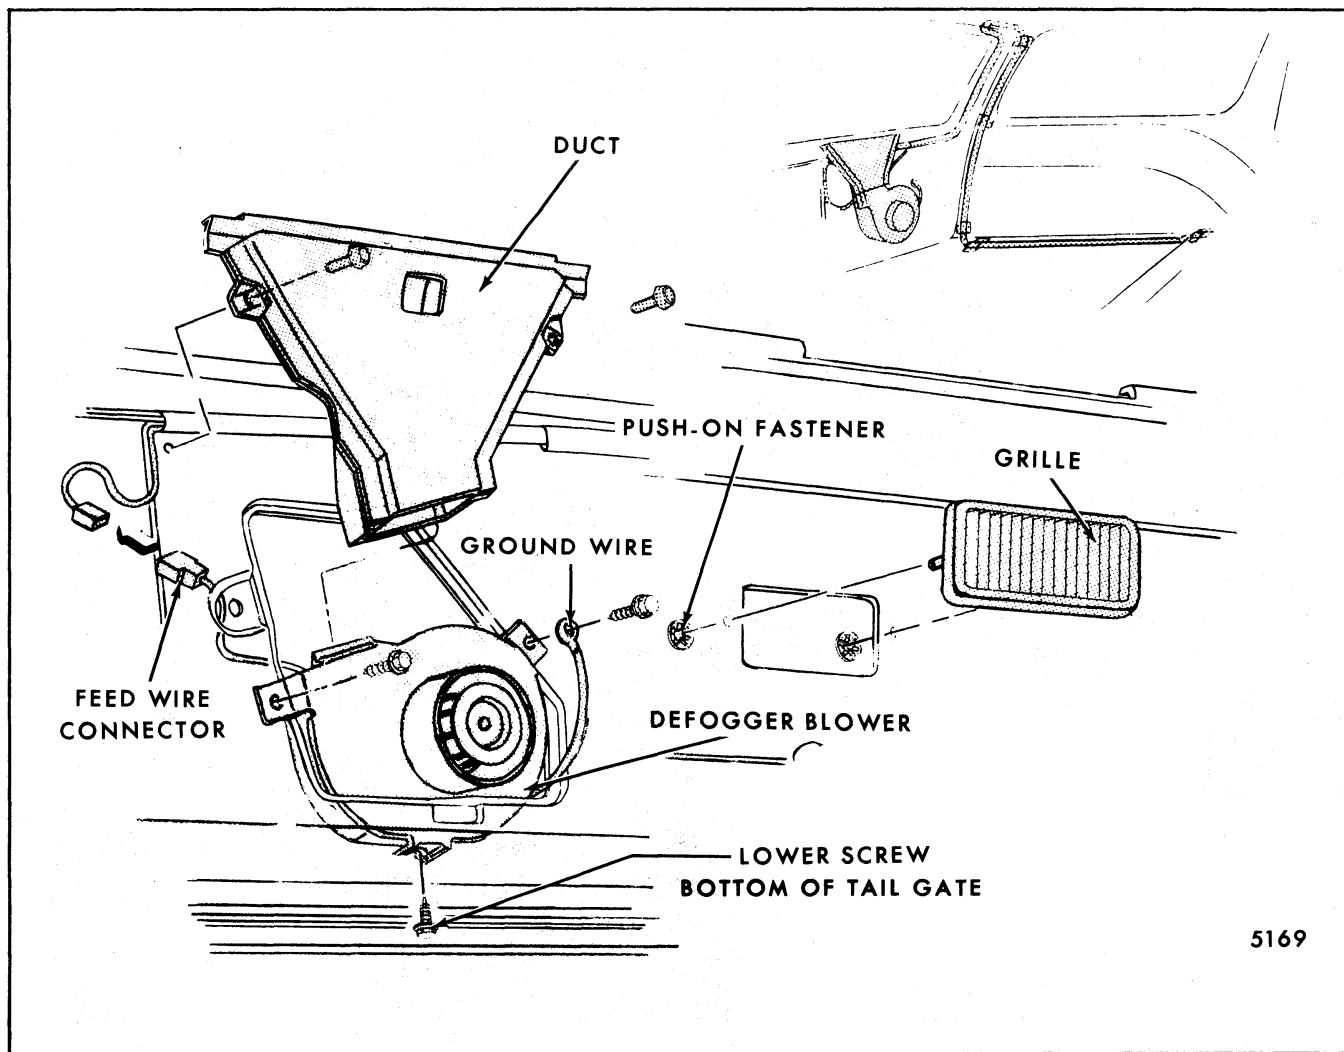

Fig. 7-93-Tailgate Window Defogger Installation
NOTE: To separate grille from inner cover panel, pry push-on retainers from grille studs (Fig. 7-93).
3. Remove screws securing blower to inner panel (lower screw accessible from bottom of tailgate) and lift from inner panel access hole and disengage wire harness connector (Fig. 7-93).